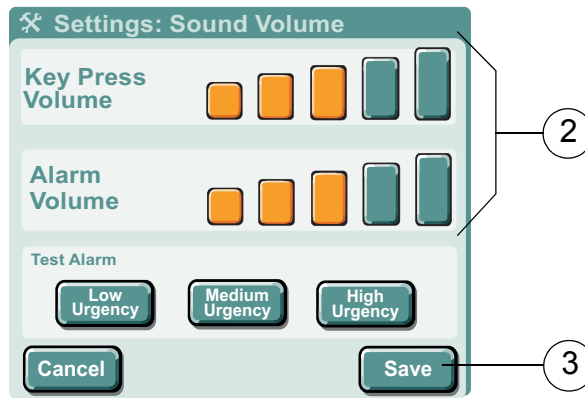

Figure 12: Settings: Sound Volume Screen
1. On the **SETTINGS SCREEN**, press the **Sound Volume** button to display the **SETTINGS: SOUND VOLUME SCREEN**. See Figure 12 below.